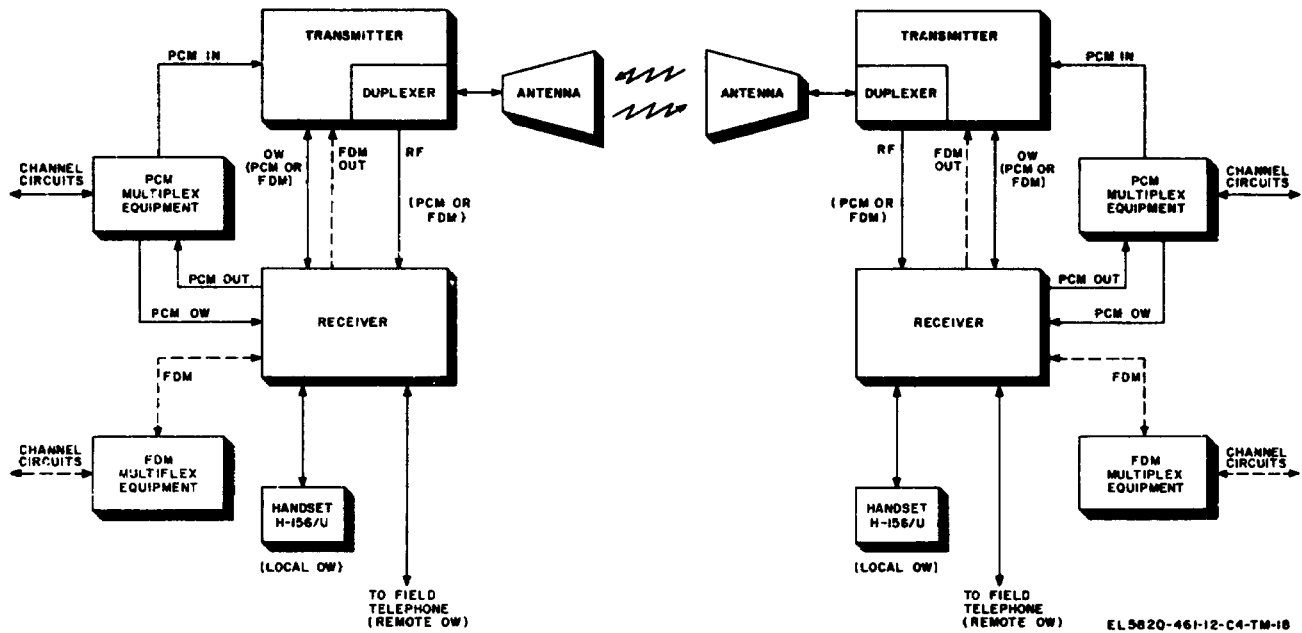

Figure 1-15. System Application using two terminals
The radio set is designed specifically for system use and generally is not used without supporting multiplex equipment. When the radio set is used in a communications system where the radio link exceeds 30 miles (approximately 50 kilometers), a repeater station is required at each 30-mile interval. In addition to multiplex equipment, each repeater station is equipped with two complete radio sets, to allow simultaneous transmission and reception in two directions. As many as seven repeater stations may be used in a system. The signal paths for various configurations are covered in paragraphs 1-16 and 1-17. Throughout this discussion and accompanying illustrations (figs. 1-15 and 6-1), the equipment that comprises the transmitting portion of the radio set (T-8993(P)/GRC, PP-2054(*)/GRC, and the AM-1957/GRC or AM-1958(*)/GRC) is referred to as the transmitter; the combination of the R-1148(P)/GRC or R-1331(*)/GRC and the AM-1955(*)/GRC or AM-1956(*)/GRC is referred to as the receiver.
1-16. Two-Terminal System (fig. 1-15)
a. *General.* Multiplex intelligence can be transmitted direct from one radio set terminal station to another at distances up to 30 miles (50 kilometers, approximately). The signal paths through this type of system are shown in figure 1-15 and are covered in b through d below.
(1) Multiplex signals (FDM) from *fdm* equipment are fed through the receiver to the transmitter (FDM OUT).
(2) The RF carrier of the transmitter, frequency-modulated by the multiplex signals, is coupled through the duplexer to the antenna for propagation towards the distant station.
(3) The signals received by the antenna at the distant station are fed through a duplexer in the transmitter to the receiver (RF). From the receiver, the signals (FDM) are routed to the *fdm* equipment.